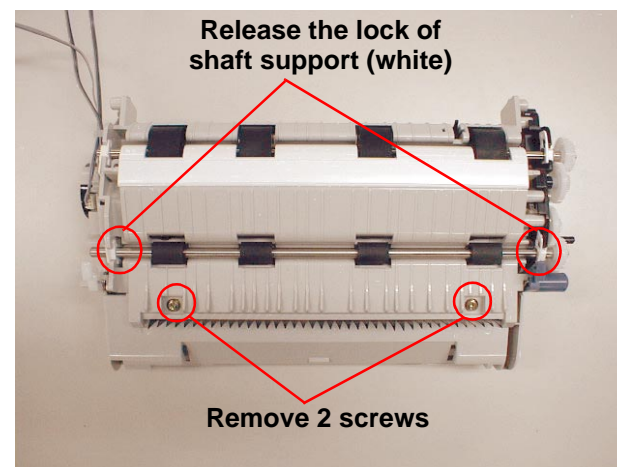
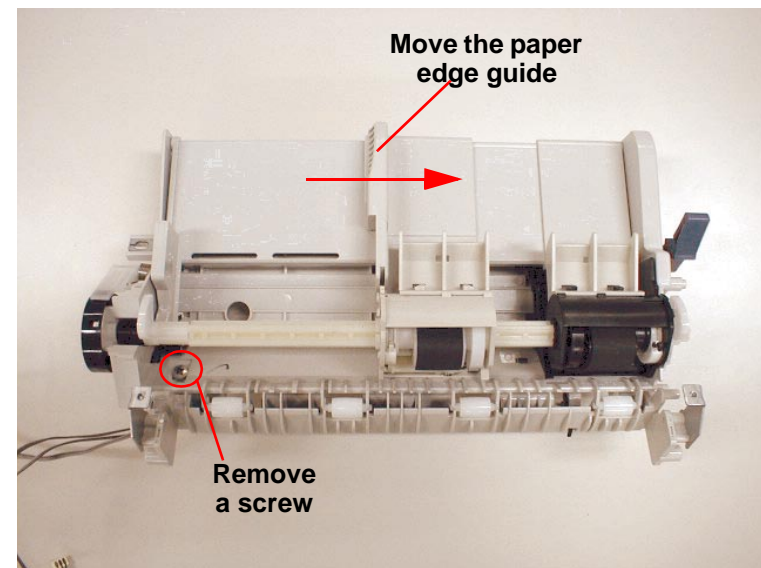

Figure 7-21. Roller Removal (1)
Figure 7-28. Disassembly of ASF and Frame (1)
1. Remove 1 screw (1 silver, P-tite with washer). If 2 screws (2 gold, P-tite with washer) shown in the figure7-21 have not been removed yet, remove them. Move the paper edge guide to the arrowed direction in the Figure7-28.